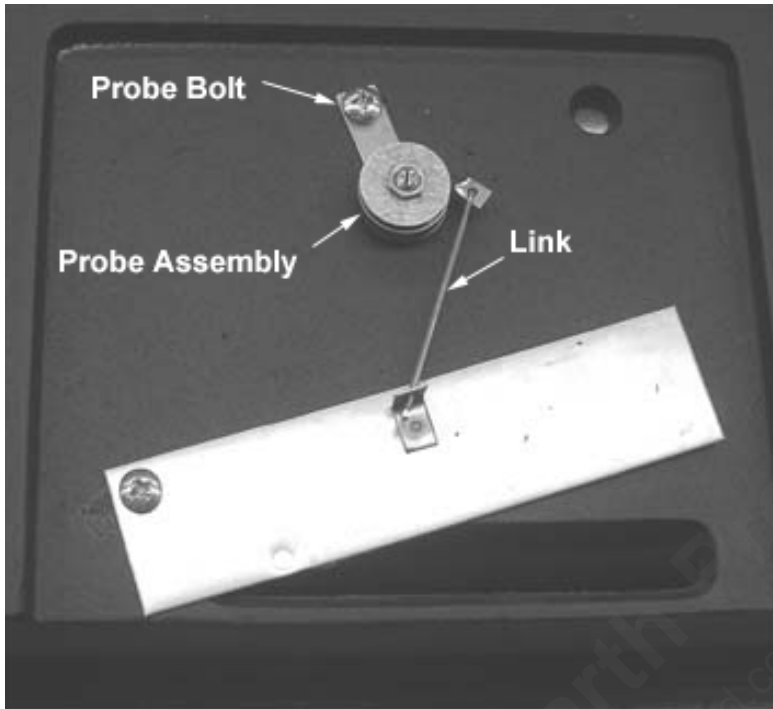

Fig. 1 View of secondary air system with the rear cover removed
10. Locate the two Phillips head bolts holding on the rear cover that holds the rating plate and remove them along with the rear cover. Unscrew the secondary air probe and maneuver it out of the short metal link and put to one side. See Fig. 1.